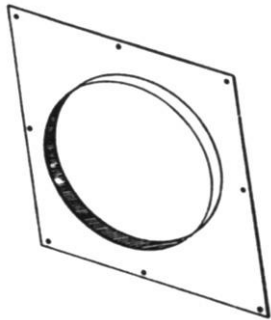

Figure 3: Metal Base Front
3. Mount the INSUL-FLUE® Metal Base (see Figure 3) on page 3 onto the wall using the eight longer screws supplied for this purpose. Plan the Metal Base positioning so that any smoke pipe pitch stated in the Stove installation instructions will be maintained.